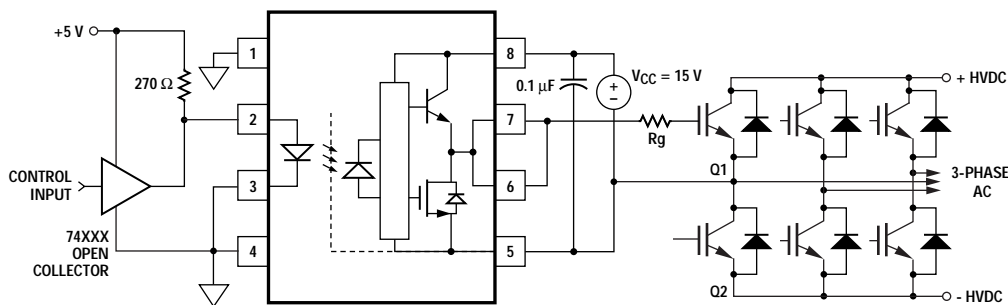
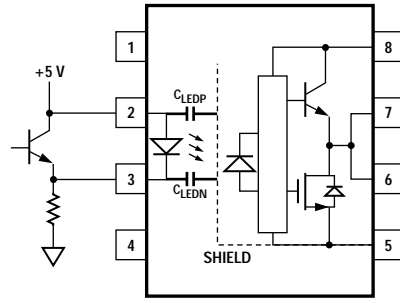

Figure 25. Recommended LED drive and application circuit for HCPL-3180.
Figure 32. Recommended LED drive circuit for ultra-high CMR.
by $R_g + 1 \Omega$. Minimizing R_g and the lead inductance from the HCPL-3180 to the IGBT gate and emitter (possibly by mounting HCPL-3180 on a small PC board directly above the IGBT) can eliminate the need for negative IGBT gate drive in many applications as shown in Figure 25. Care should be taken with such a PC board design to avoid routing the IGBT collector or
Step 1: Calculate R_g minimum from the I_{OL} peak specification. The IGBT and R_g in Figure 25 can be analyzed as a simple RC circuit with a voltage supplied by the HCPL-3180.
For the circuit in Figure 25 with I_F (worst case) = 16 mA, $R_g = 10 \Omega$, Max Duty Cycle = 80%, $Q_g = 100 \text{ nC}$, $f = 200 \text{ kHz}$ and $T_{AMAX} = +75^\circ\text{C}$:
design objective of a high CMR LED drive circuit becomes keeping the LED in the proper state (on or off) during common mode transients. For example, the recommended application circuit (Figure 25), can achieve $10 \text{ kV}/\mu\text{s}$ CMR while minimizing component complexity.
performance. Figure 32 is an alternative drive circuit, which like the recommended application circuit (Figure 25), does achieve ultra high CMR performance by shunting the LED in the off state.